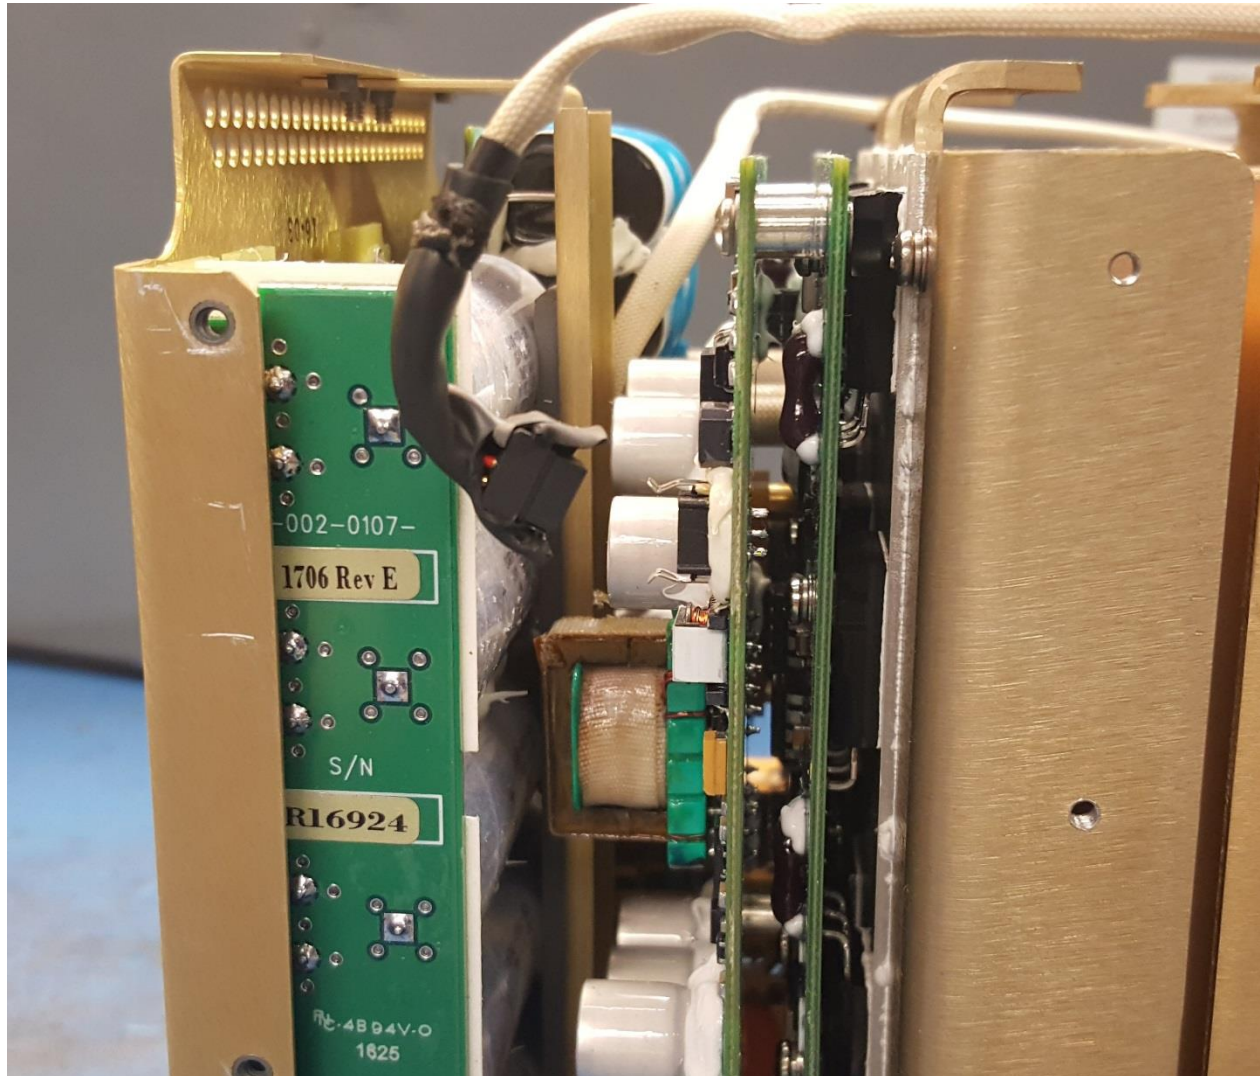

**Figure 7 – Bus Assembly Screw, Connector, and Cable Tie Locations**
8. Remove (1) cable tie (1x MS3367-4-9). (Figure 7).
9. Carefully disconnect the connector. This step may require removing the shrink tubing (1.5"±.06 M23053/5-108-0 (Black)) and tie with lacing from the connector. (Figure 7, 8).
10. Remove (2) screws (2x MS51957-13) from (top) lugs on the bus assembly. Ensure that the top two lugs are removed before the bottom two. (Figure 7).
11. Remove (2) lower screws (2x 0405CPP188). (Figure 7).
24. Insert (2) bottom screws (2x 0405CPP188) to the bus assembly. (Figure 7).
25. Attach (2) top screws (2x MS51957-13) to the bus assembly. (Figure 7).
26. Reconnect the connector to the DC-AC power supply. This step may require attaching shrink tubing (1.5"±.06 M23053/5-108-0 (Black)), and tie with lacing. (Figure 7, 8).
27. Attach (1) new cable tie (1x MS3367-4-9). (Figure 7).